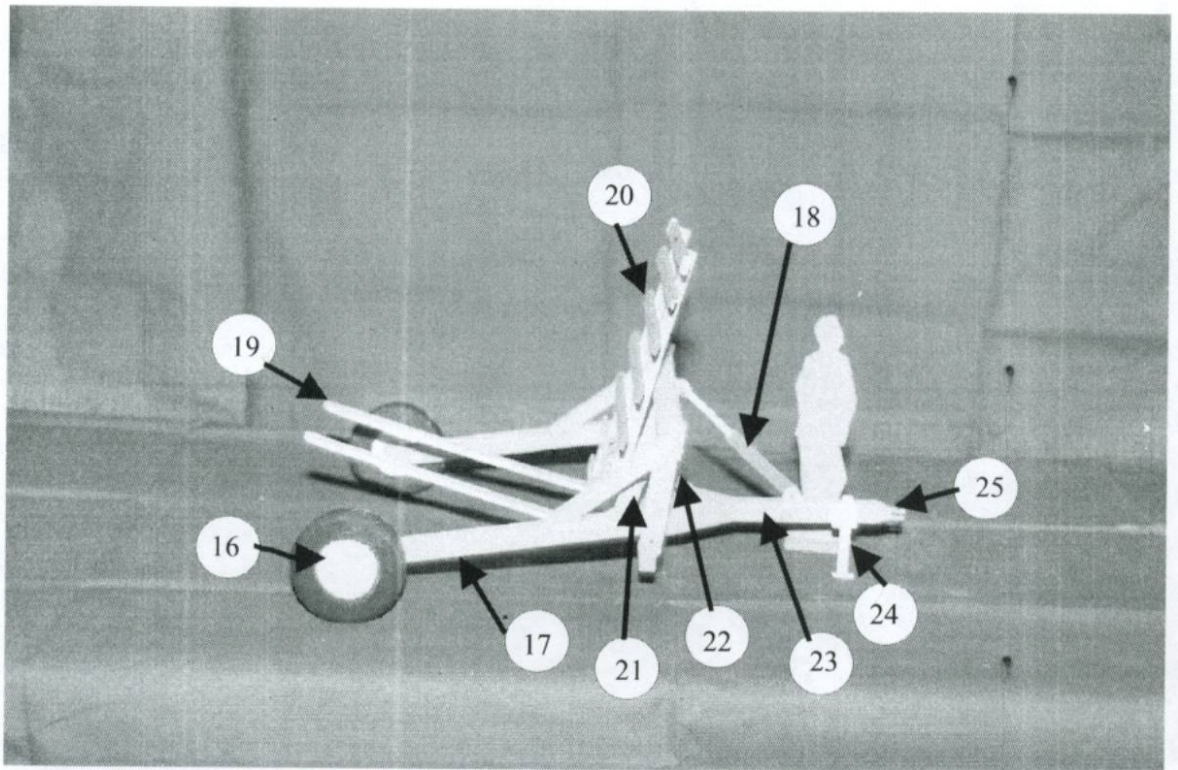

Fig3
- Fig. 3 Hay pallet lifting trailer: side view